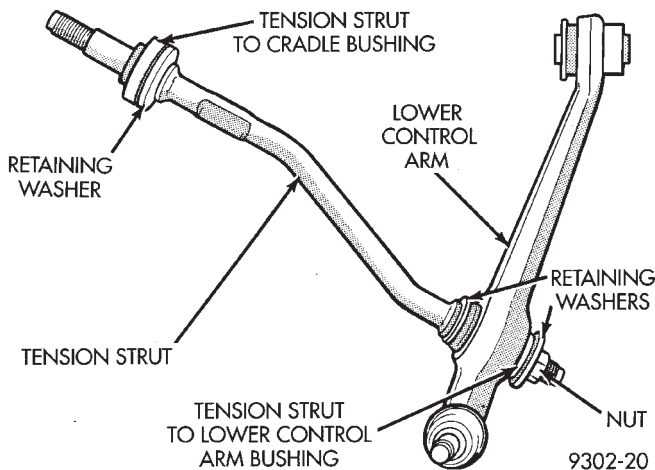

Fig. 34 Tension Strut Bushing Installation On Tension Strut
(1) Remove lower control arm and tension strut as an assembly from the vehicle. See Lower Control Arm in the Removal and Installation section of this service manual for the required removal procedure.
(2) Remove the tension strut to cradle isolator bushing from the tension strut. Install replacement isolator bushing on tension strut until it is seated against retaining washer (Fig. 34).